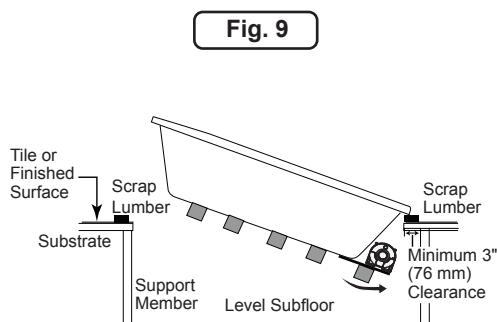

Fig. 9
4. Install the unit. For units equipped with a motor/pump and/or a blower, insert the motor/pump end first, lowering the bathtub into the opening (Figure 9).